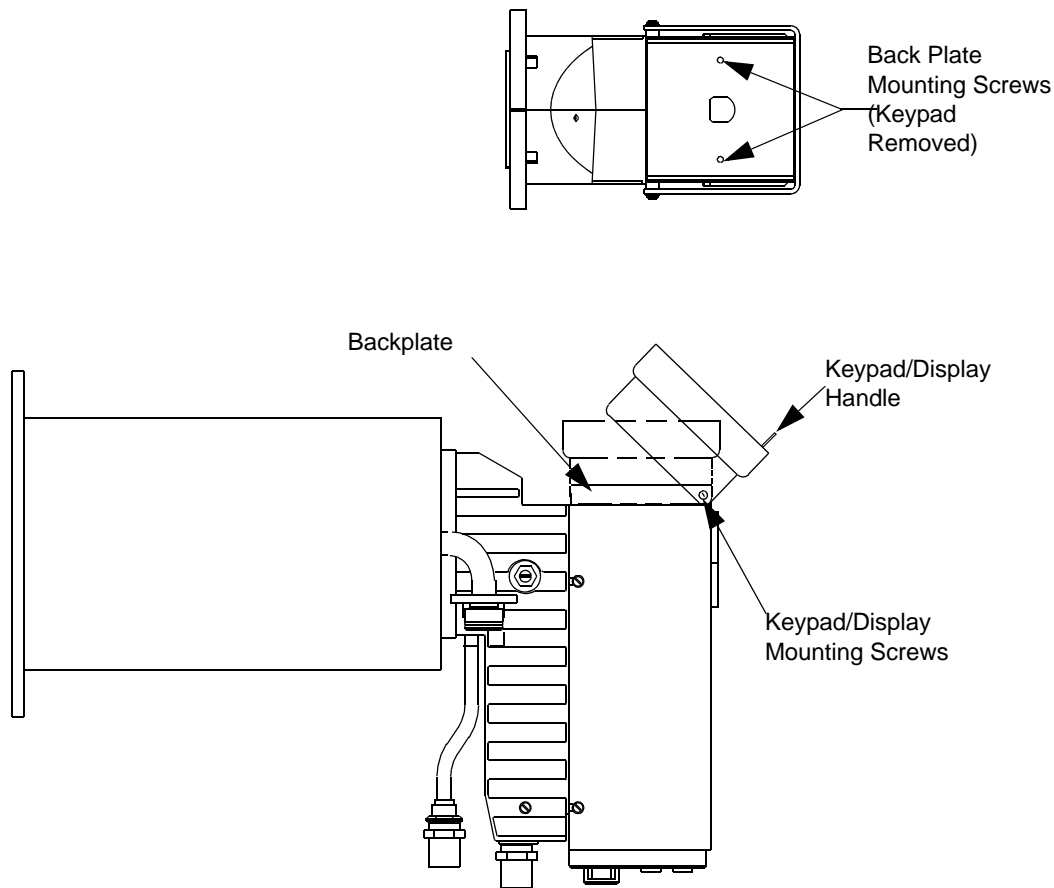

Figure 2-5: Keypad/Display Mounting Position D
Refer to Figure 2-5 and the following procedure to install the keypad/display in position D.
3. Rotate the back plate, being careful not to strain the cable, so the keypad/display mounting screw holes are oriented as shown in Figure 2-5.
5. Remount the keypad/display using the 2 screws, washers, and nuts removed in step 1 as shown in Figure 2-5.